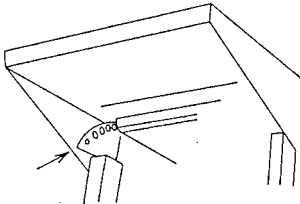

Fig. 3
- 3. Install table position stopping bolts at rear of position locking plate as shown in Fig. 3.